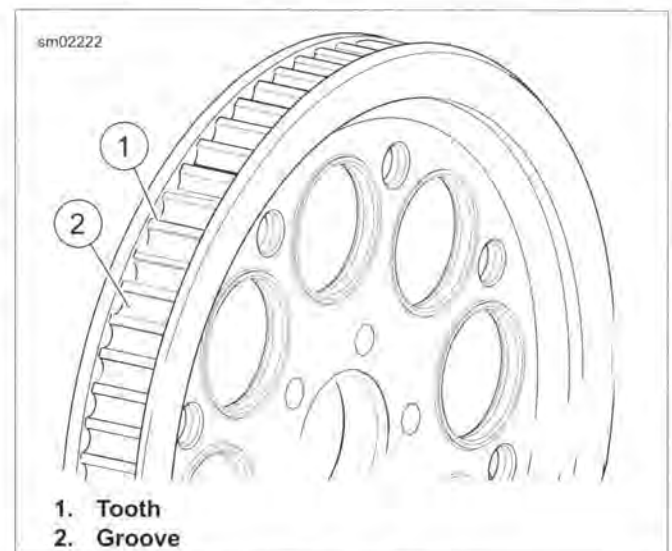

Figure 1-22. Rear Sprocket
1. See Figure 1-22. Inspect each tooth (1) of rear sprocket for:
2. Check for worn chrome plating. Drag a sharp object across the bottom of a groove (2) using medium pressure.